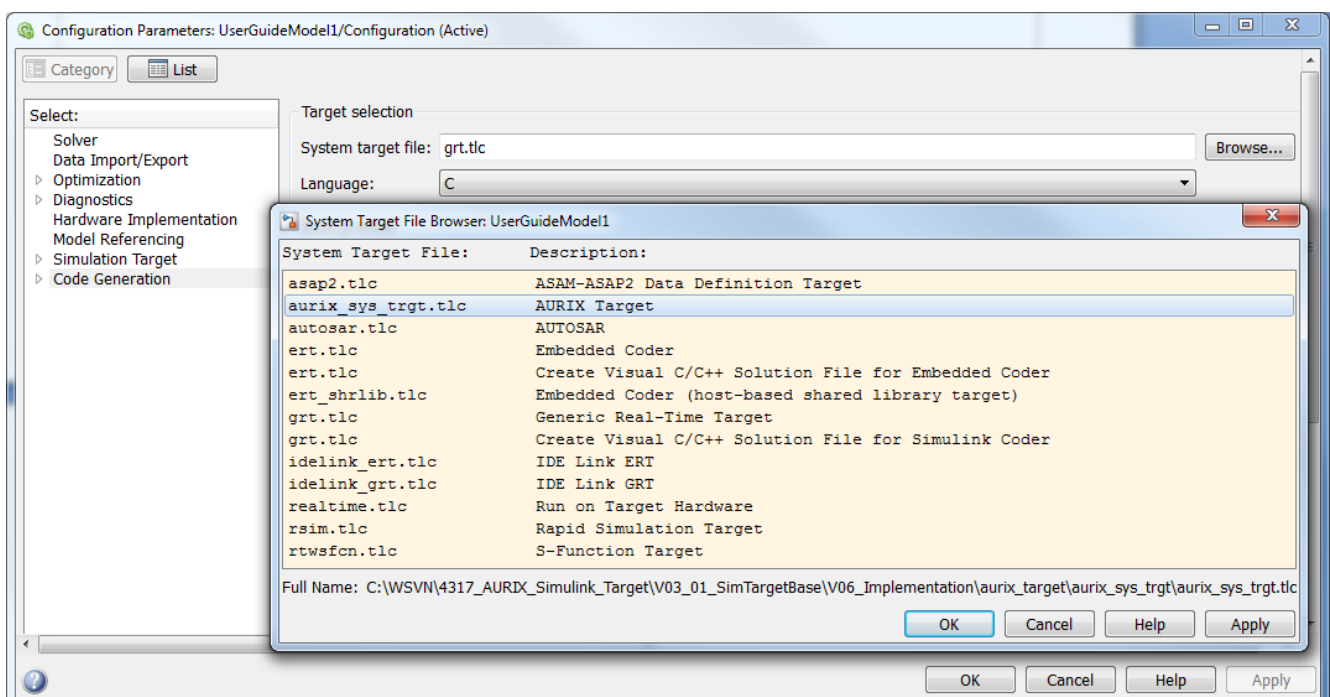

Figure 6 Selecting the AURIX Target
2. In the Code Generation pane, Browse the System Target File and select AURIX Target, Figure 6, and click OK. (Note if this target isn't shown then it may not have been installed, see section 2)